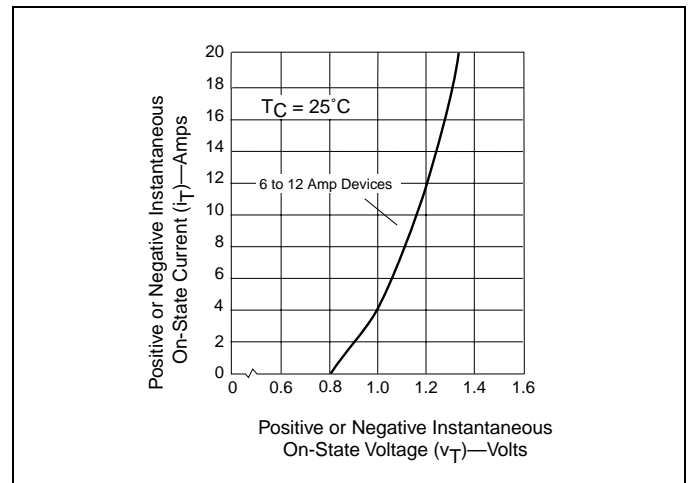

Figure 4.5 On-State Current vs On-State Voltage (Typical) (6-12 Amp Devices)
- (5) See Figures 4.5 and 4.6 for  $I_T$  and  $v_T$ .